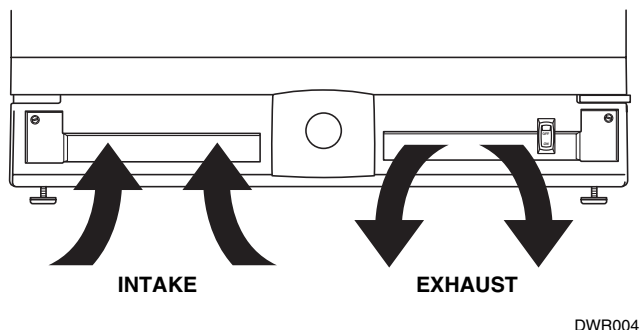

Figure 4
4. Position the unit to allow free air flow through the front grille (Figure 4).